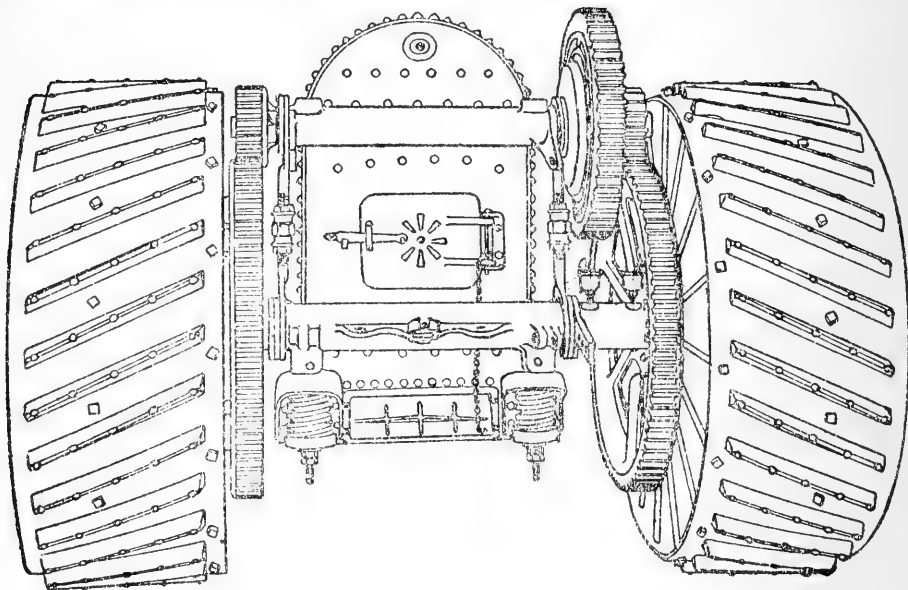
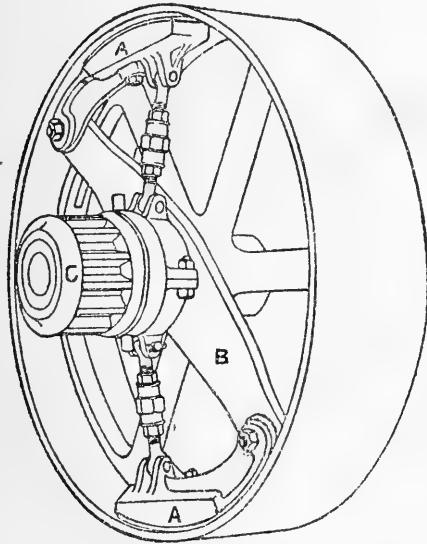

FIG. 30. CUT SHOWING CANNON BEARINGS AND GEARING.
FIG. 31. FRICTION CLUTCH.
*The Friction Clutch.* The friction clutch is used to connect the engine to the traction gearing and wheels. By means of it, the engine may be made to travel as slowly as desired, while the engine proper is running at full speed. When the clutch is in partial engagement, the shoes, (A),
(Fig. 30), press lightly against the rim of the fly-wheel, transmitting only part of its motion to the gearing. But when in full engagement, the shoes press so hard against the rim of the fly-wheel that they prevent slipping, thus locking the fly-wheel and pinion, (C), together. The two shoes are hinged to the ends of the arm, (B). This arm has a long sleeve, which is loose upon the shaft, but at the end of which the pinion, (C), is firmly keyed. The sliding ring, (D), (Fig. 31), is loose upon the sleeve, and when moved toward the fly-wheel, straightens the toggle levers, thus pressing the shoes